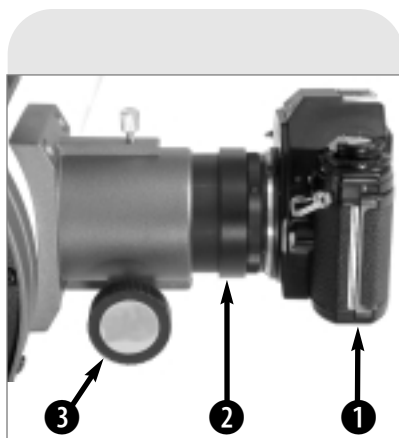
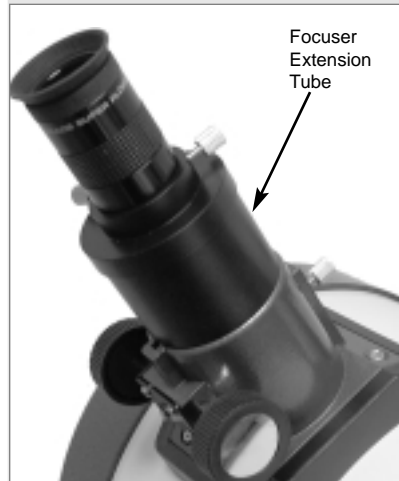

Fig. 22: LXD55-Series T-Adapter attached to focuser assembly and camera.
Fig. 23: Focuser Extension Drawtube with eyepiece holder and eyepiece attached.
Photography through an LXD55 Schmidt-Newtonian telescope requires an LXD55-Series T-Adapter (supplied) attached to the telescope (**Fig. 22**). Through-the-telescope photography is possible with any 35mm camera body with a removable lens. In this way, the telescope effectively becomes the lens of the camera.
Unthread the focuser extension tube (**Fig. 23**) from the focuser drawtube to remove from the focuser assembly. The T-Adapter (**2, Fig. 22**) threads onto the focuser, followed by the camera body (**1, Fig. 22**).
2. Focus the image with extreme care. While observing the subject through the camera's reflex viewfinder, turn the telescope's focus knob (**3, Fig. 22**) to achieve the sharpest possible focus. Note that some 35mm cameras may have an optional focusing screen (available from the manufacturer) for use with a long telephoto lens. This screen provides a brighter and clearer image to focus, and is highly recommended.